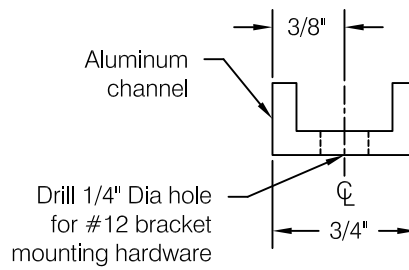

fig 4
- Step 4:** Layout aluminum alignment channel and drill for bracket attachment hardware using a 1/4" diameter drill bit. This will provide clearance for #12 screws used to secure the handrail to the bracket. Drill along the centerline of the channel as shown in **fig 4**. Space holes to allow for channel to stop and start at return and corner accessories as noted above.